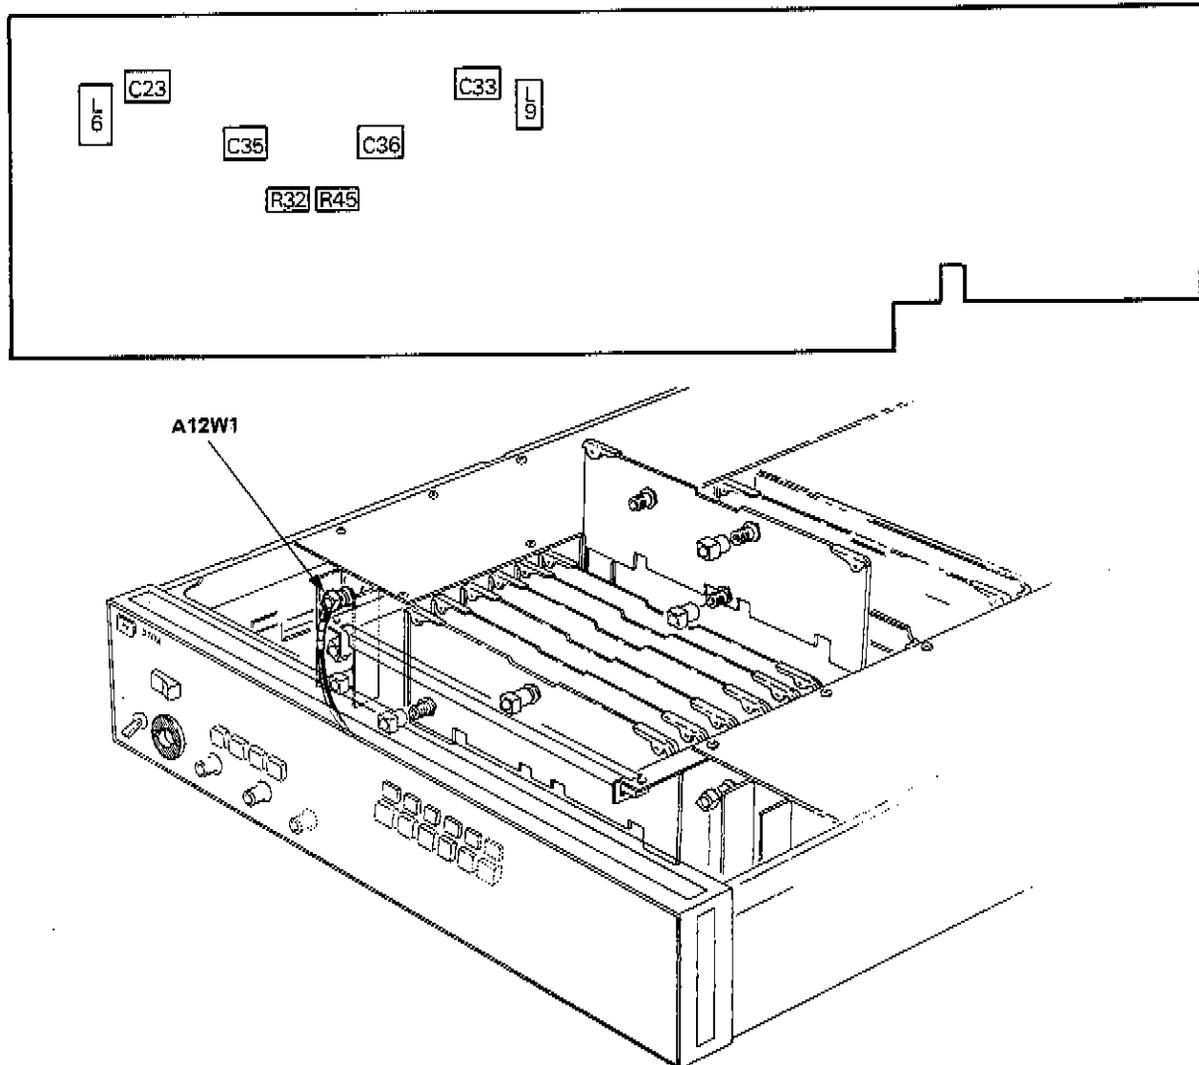

Figure 5-3 A12 Adjustment Locations and Position of A12W1
4. Set the 3702B Return Loss Attenuator to 30dB. Check that the trace is below the centre of the display (indicating return loss greater than 30dB) over the full display. If necessary, adjust A12L6 and A12C23 for return loss greater than 30dB, 70MHz \pm 10MHz. (See Figure 5-3 for adjustment locations.)
5. Connect the Return Loss Bridge to the RIGHT 3717A IF Output. Check that the 3702B trace is below the centre of the screen. If necessary adjust A12L9 and A12C33 for return loss greater than 30dB, 70MHz \pm 10MHz. (See Figure 5-3 for adjustment locations.)